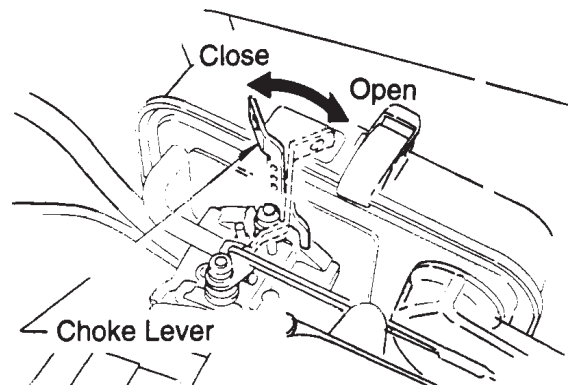

Figure 9. Choke Lever
3. Close the choke lever (Figure 9) and move the throttle lever to the "Full Open" position. Turning the choke lever 90 degrees clockwise closes the choke. In cold weather, start the unit with choke fully closed. In warm weather or when the engine is warm, the unit can be started with choke halfway or completely open.
5. If engine fails to start, move the choke lever (Figure 9) to the half open position to avoid flooding.